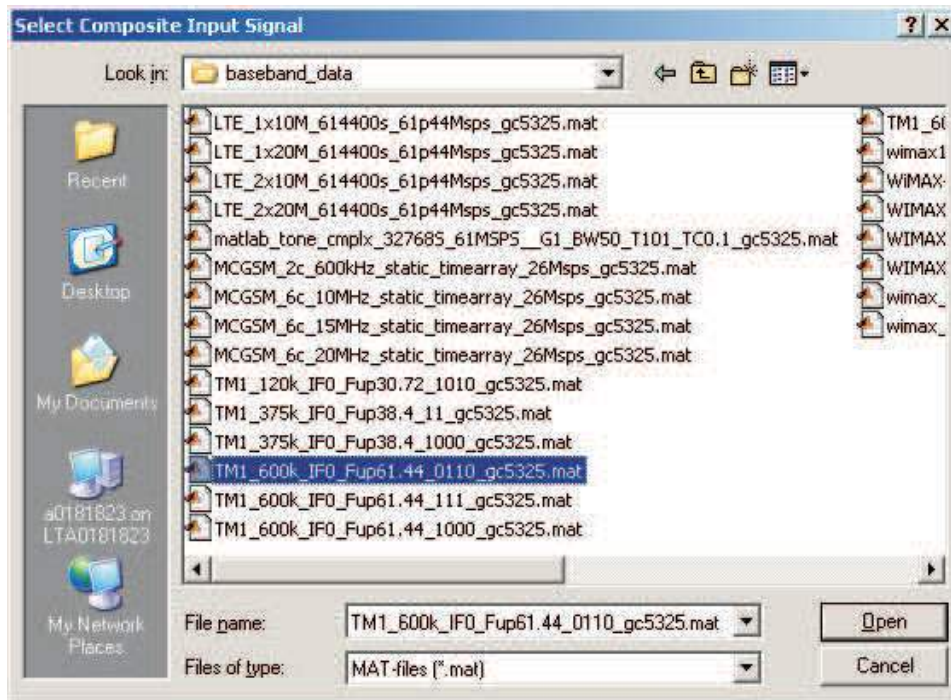

Figure 8. MATLAB Vector Saved as .mat File
- Now, the input signal can be loaded by clicking on the Load Signal button. The format of the input signal can be a complex MATLAB vector saved as a .mat file (Figure 8), or a two-column text file. Because the GC5325EVMGUI rescales the input signal to the appropriate RMS level, the input signal can be floating point and need not have any particular scaling. Browse to the appropriate file and select OK.